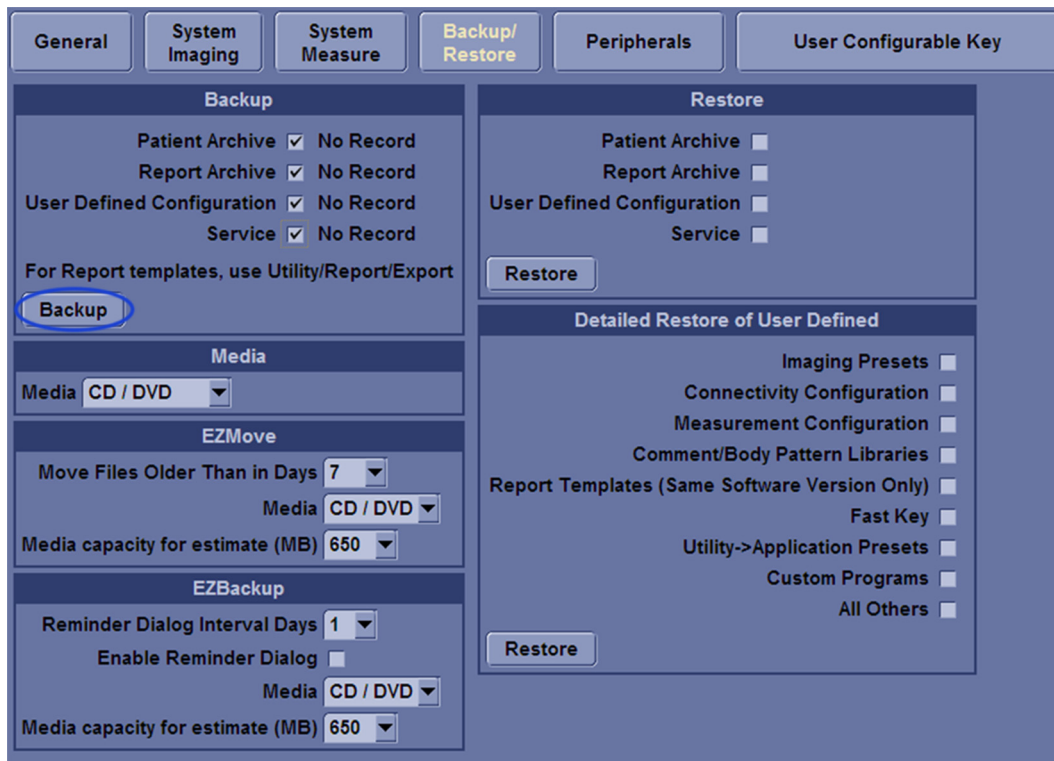

Figure 4-18 Backup/Restore Menu
- 4.) The system displays a pop-up menu, as shown in Figure 4-18 on page 4-26, select **OK** to continue.
- 5.) Select **Backup**, as shown in Figure 4-18 on page 4-26.